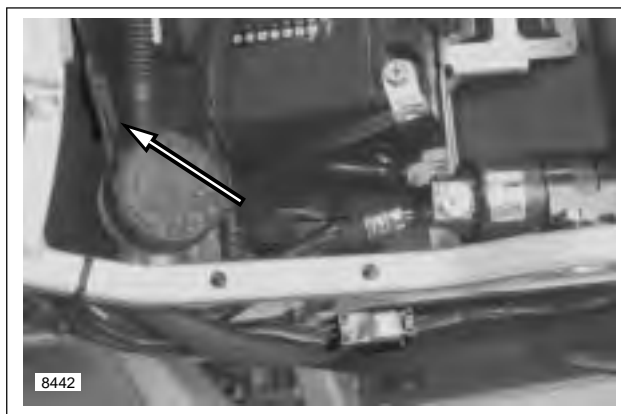
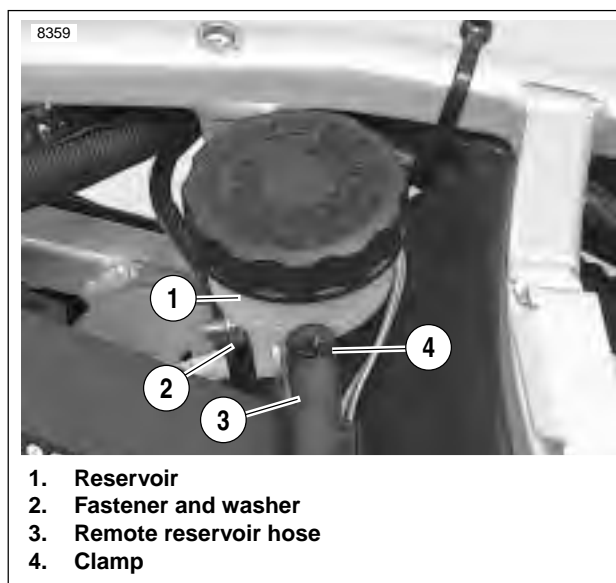

Figure 2-43. Brake Line Switch Connector
Figure 2-45. Remote Reservoir
6. See Figure 2-43. Disconnect brake light connector located under the seat.
10. See Figure 2-45. Detach remote reservoir.
- a. Remove top clamp (4) on hose connected to master cylinder.
- b. Remove fastener (2) to detach reservoir (1) from frame if necessary.
4. See Figure 2-45. Connect remote reservoir.
- a. If removed, attach remote reservoir (1) to frame using clamp fastener (2). Tighten to 48-72 in-lbs (5.4-8.1 Nm).
- b. Attach hose (3) to rear brake reservoir using clamp.
5. See Figure 2-43. Connect brake line switch connector under seat.